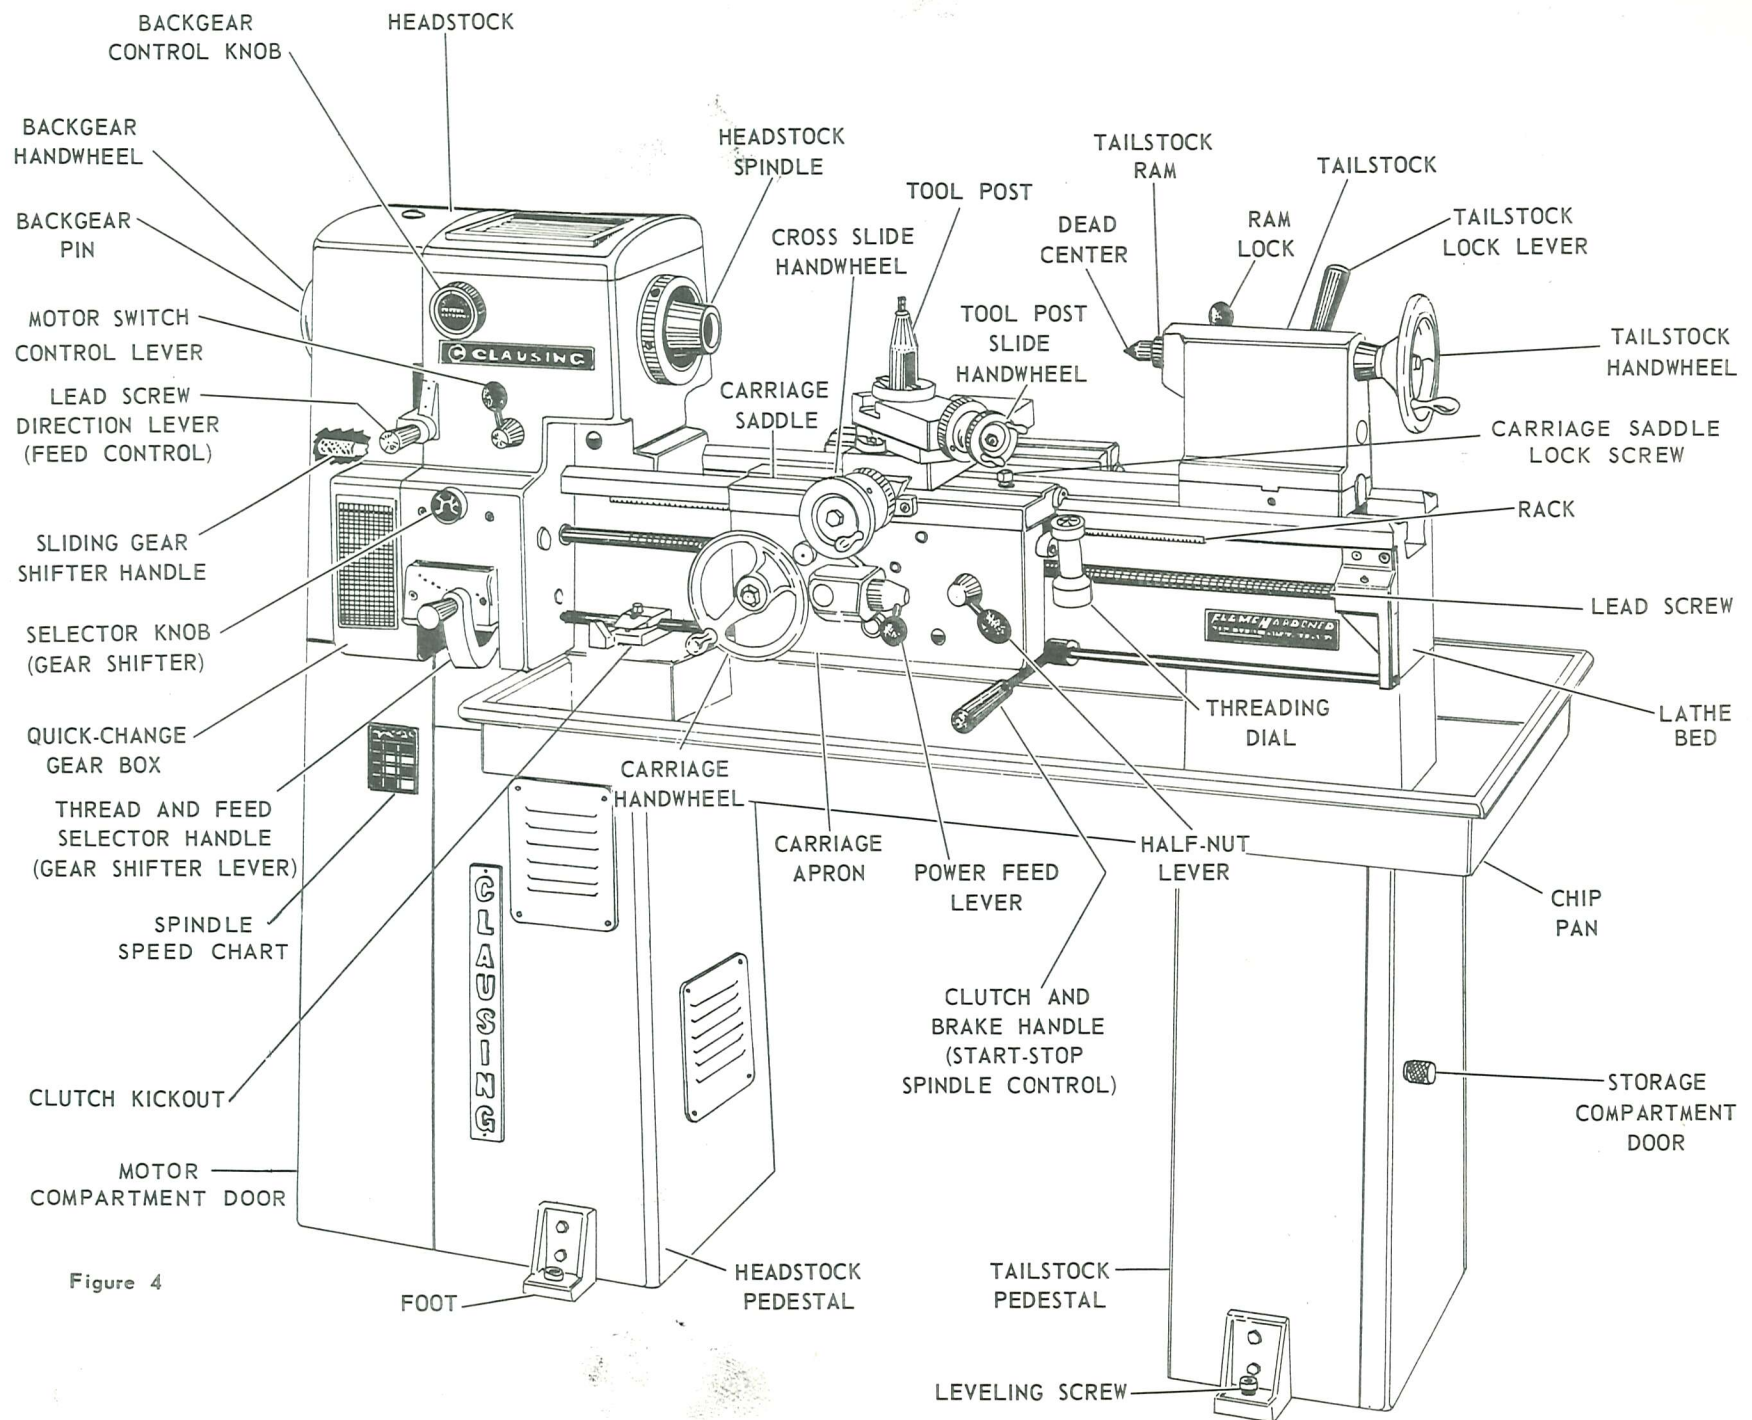

Figure 4
1. Move motor switch control lever to stop position -- refer to figure 4.